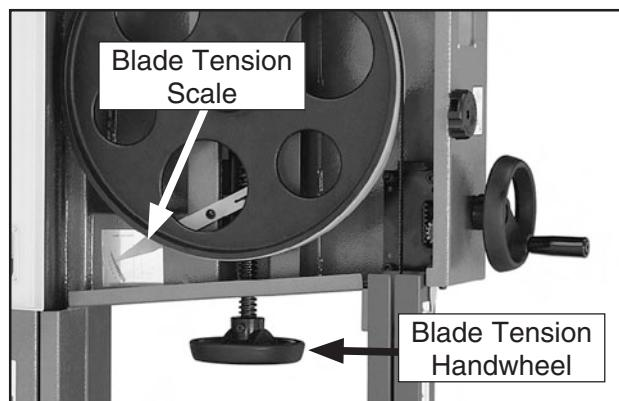

Figure 22. Blade tensioning controls.
- Engage the quick tension lever and turn the blade tension handwheel until the tension scale (**Figure 22**) reads between 4 and 6.